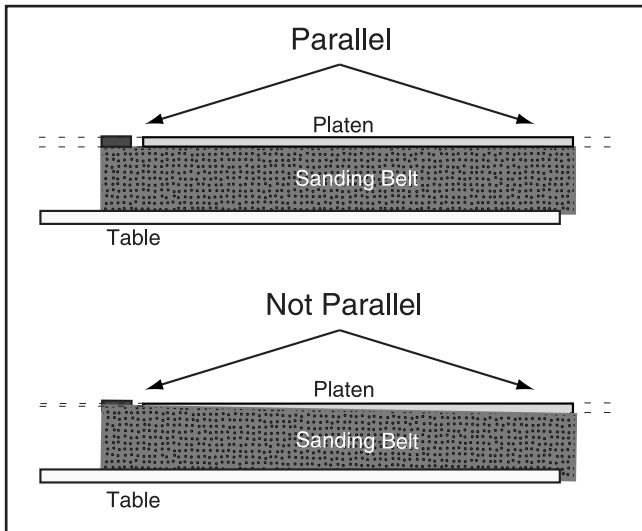

Figure 52. Illustration of parallel belt tracking.
The belt should track on the rollers so that the top edge of the sanding belt stays parallel with the top edge of the platen graphite, as illustrated in **Figure 52**.
1. Track the belt so it is centered on the main roller and the top of the belt is parallel with the top of the platen, as shown in **Figure 52**.